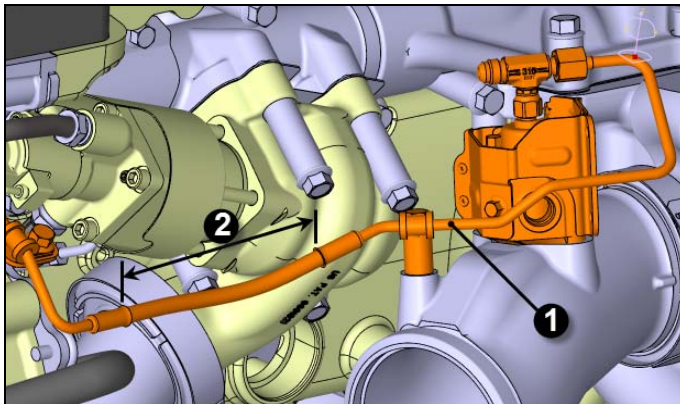

FIGURE 1
- 1) Locate the braided section of the AHI hard fuel line (item 2, FIGURE 1).